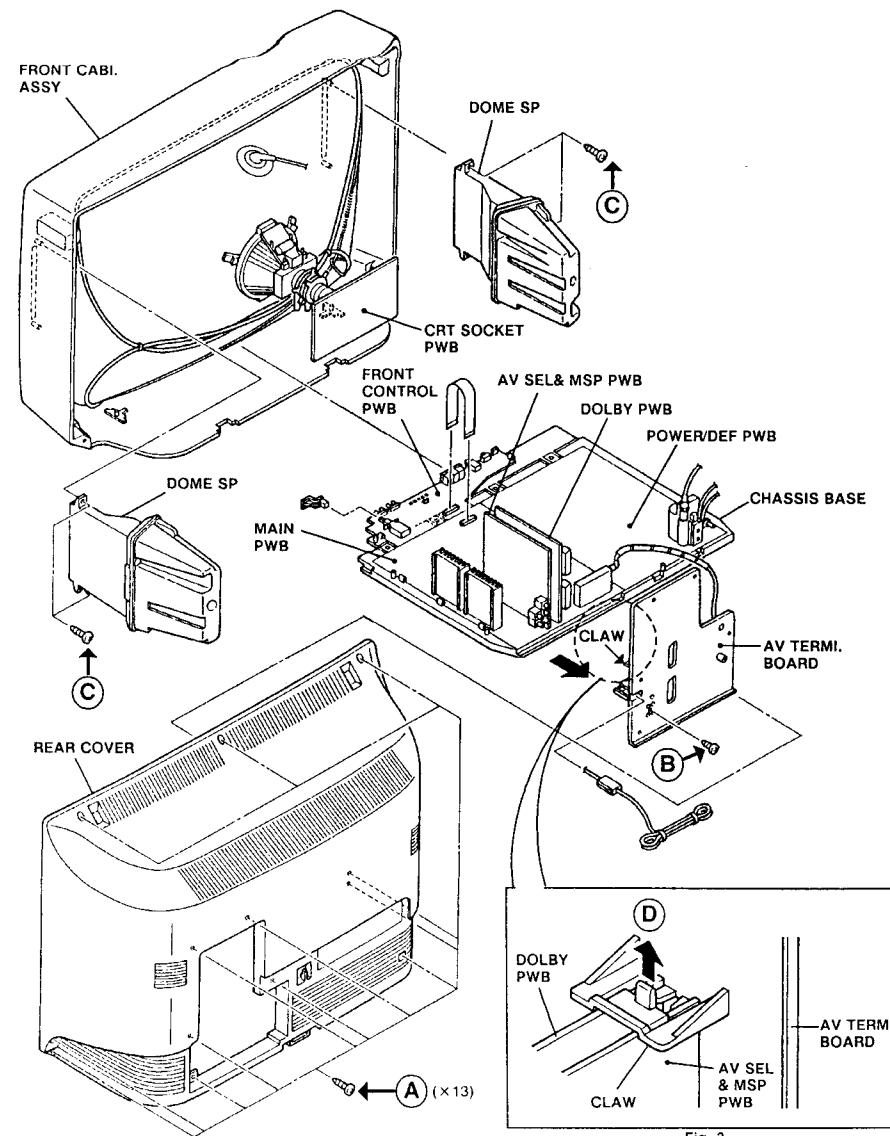

Fig. 2
1. Remove the 2 screws marked (C) as shown in Fig. 2.
- When removing the screws marked (C) of the speaker box, remove the lower side screw first, and then remove the upper screw.